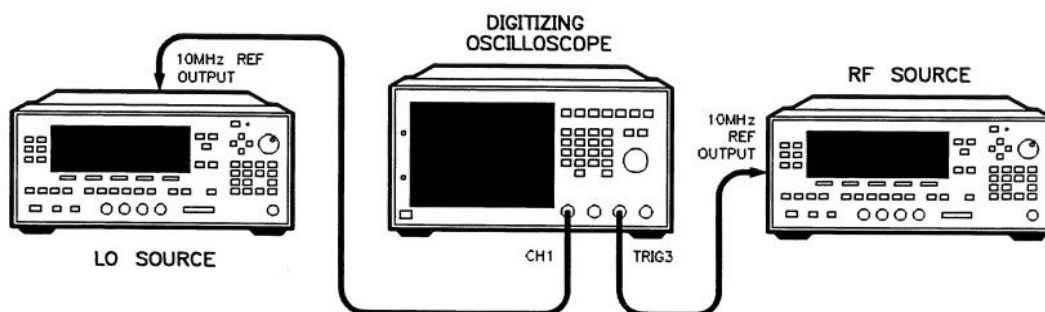

Figure 4-1. LO Source 10 MHz Timebase Adjustment Setup
1. Connect the equipment as shown in Figure 4-1. Preset all instruments and let them warm up for one hour.